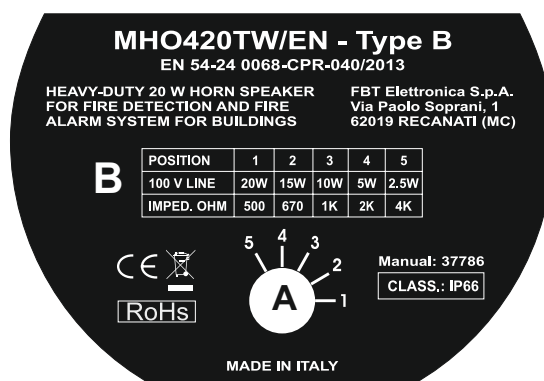

Fig. 2
The change of the power value can be simply carried out by means of the relative 5-position trimmer located on the rear side of the horn (det. A, Fig. 2). Insert a little flat-blade screwdriver into the slot and turn it clockwise or anti-clockwise until the reference mark matches the desired power. The position/power correlation is indicated in tabel (B).